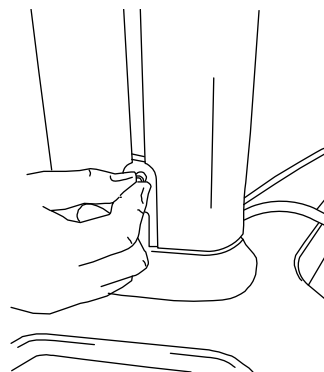
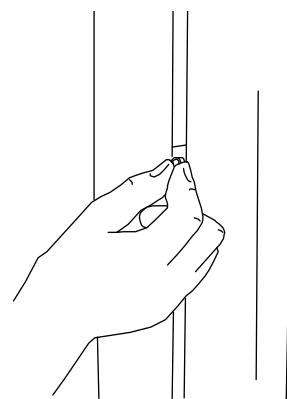

Figure 2 Insert nut plate
Figure 3 Slide nut plate up the column.
- 1 Insert a nut plate into the groove at the lower back (or lower front, for front installation) of the stand column, and slide it a few inches up the column. See Figure 2 and Figure 3.